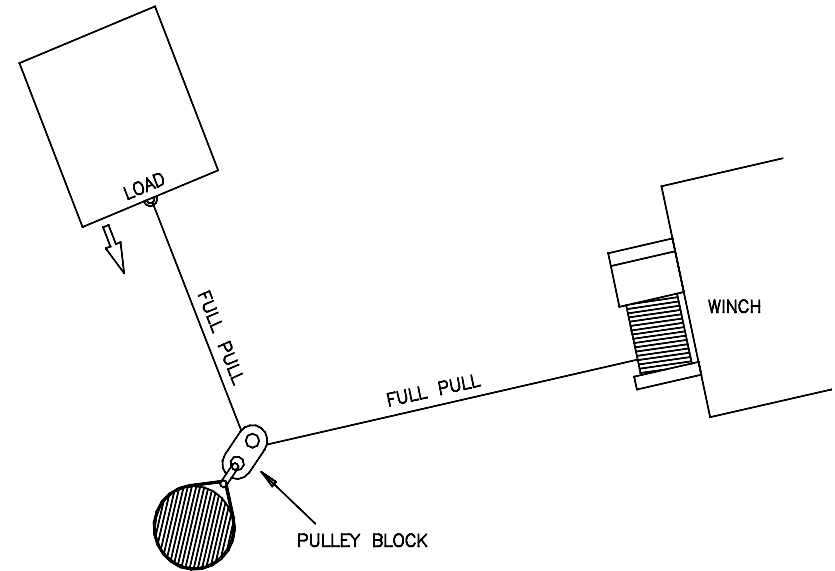

Fig. 13
5. Figure 13 illustrates the use of a pulley block to change the direction of the pull. Mechanical advantage can be obtained by attaching a pulley block to the nylon sling with a shackle and running the wire rope to the anchor point.